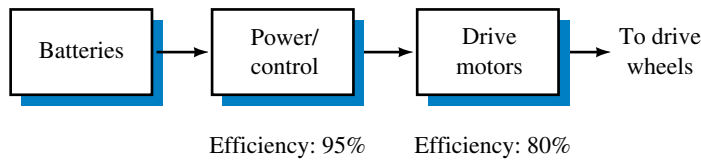

FIGURE 4-40
61. The power/control system of an electric car consists of a 48-V onboard battery pack, electronic control/drive unit, and motor (Figure 4-40). If 180 A are drawn from the batteries, how many horsepower are delivered to the drive wheels?